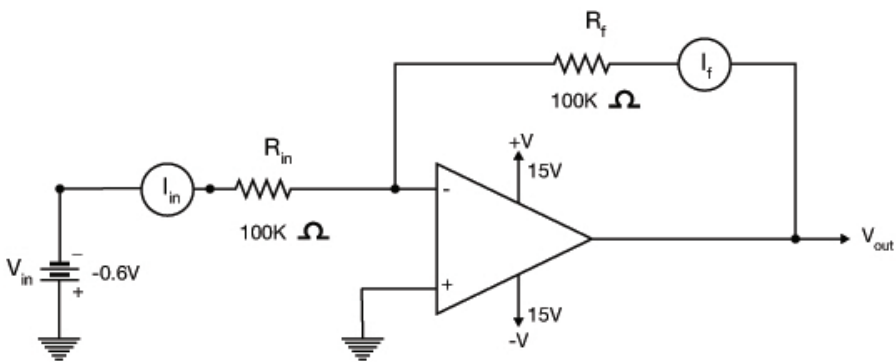

Figure 17.1 Constant voltage source.
Figure 17.1 shows a representative circuit of an op-amp connected as a **constant voltage source**. In this circuit, the op-amp is connected as an inverting amplifier with feedback to control its gain or amplification. This causes the output voltage (V_{out}) to become a fixed or a constant value due to the high level of amplification achieved. Ideally, the **closed-loop amplification** (A_{cl}) of this circuit is determined by the resistance of R_{in} and R_f . This is expressed as follows:
Determine the A_{cl} , I_{in} , I_f , and V_{out} of **Figure 17.1** when -0.6 V is supplied by V_{in} .
3. The load resistor of a constant voltage source op-amp circuit of **Figure 17.1** should be connected to: